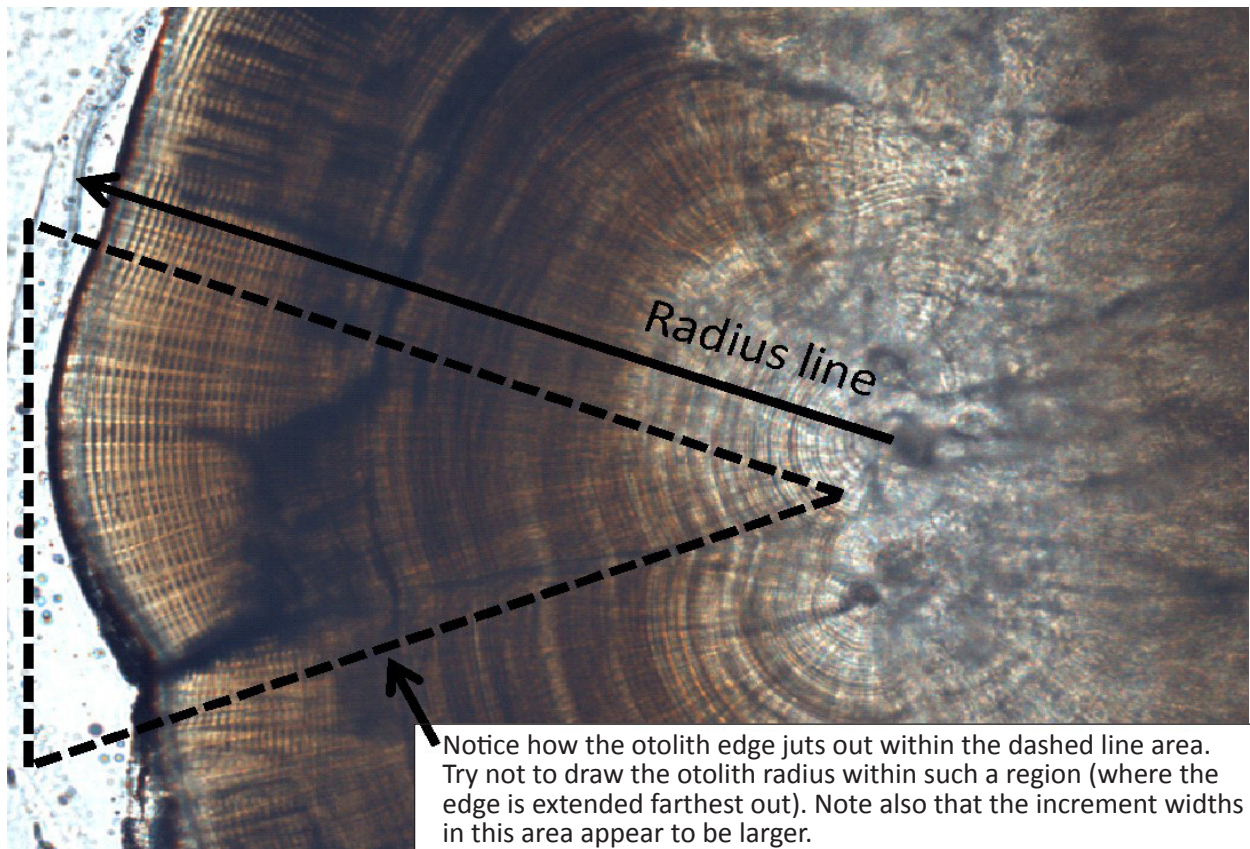

Figure 13. Otolith showing the radius line and illustrating a problematic area (enclosed within the dashed line) to avoid when drawing the radius.
2. *Drawing an accurate radius line.* Take time when deciding where to place the radius line. Be certain that the location you choose accurately represents the otolith radius. This can be tricky to do because the otolith edge is curvy; thus, it's important to identify and draw the radius through an area where the otolith edge appears to be an average distance from the nuclei (Figures 13 and 14).